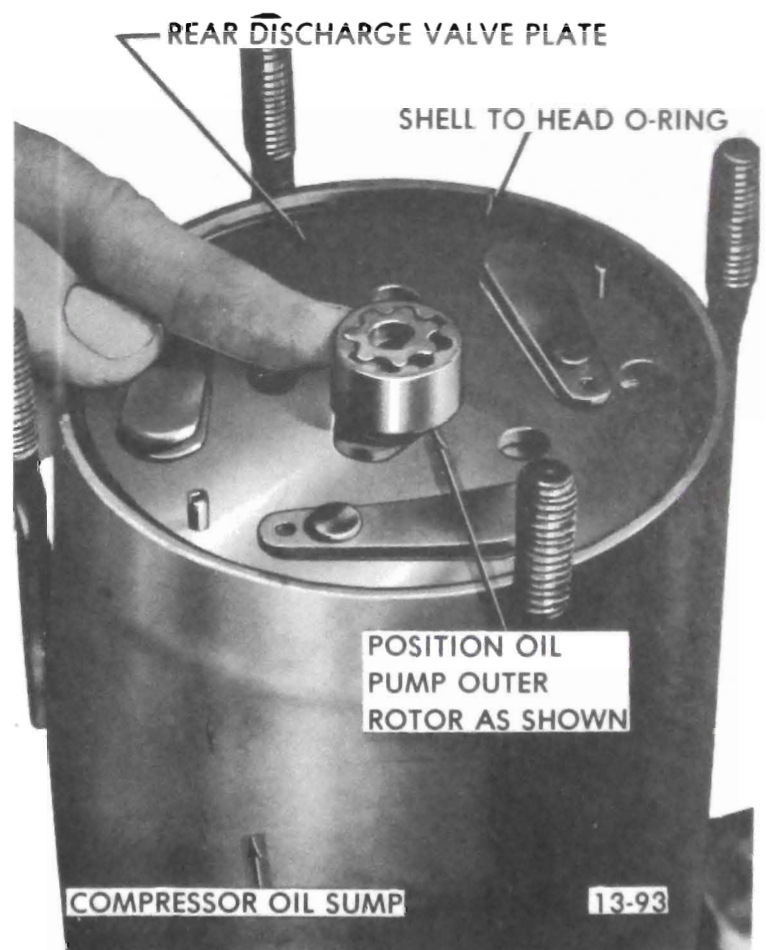

Figure 13-75 Positioning Oil Pump Outer Rotor
the sides previously identified are in their original location, and then position oil pump outer rotor as shown in Figure 13-75.
5. Generously coat with No. 525 viscosity oil new shell to head "O" ring and install in shell (see Figure 13-75).